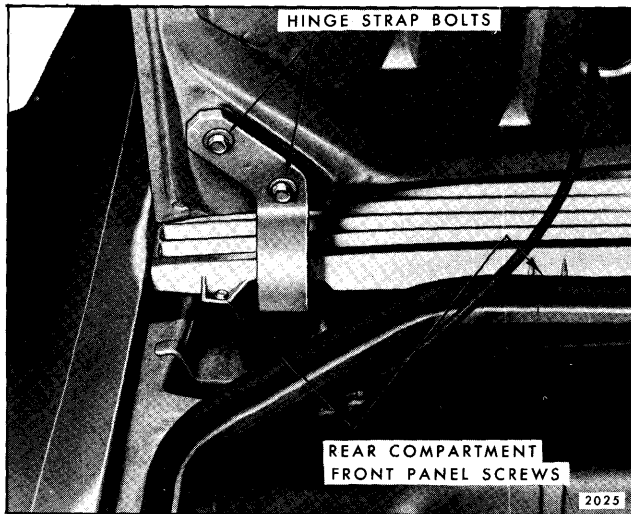

Fig. 8-5—Rear Compartment Front Panel Screws - Oldsmobile and Buick "E" Styles
1. Raise rear compartment lid and remove lower screws of panel (see Fig. 8-5).